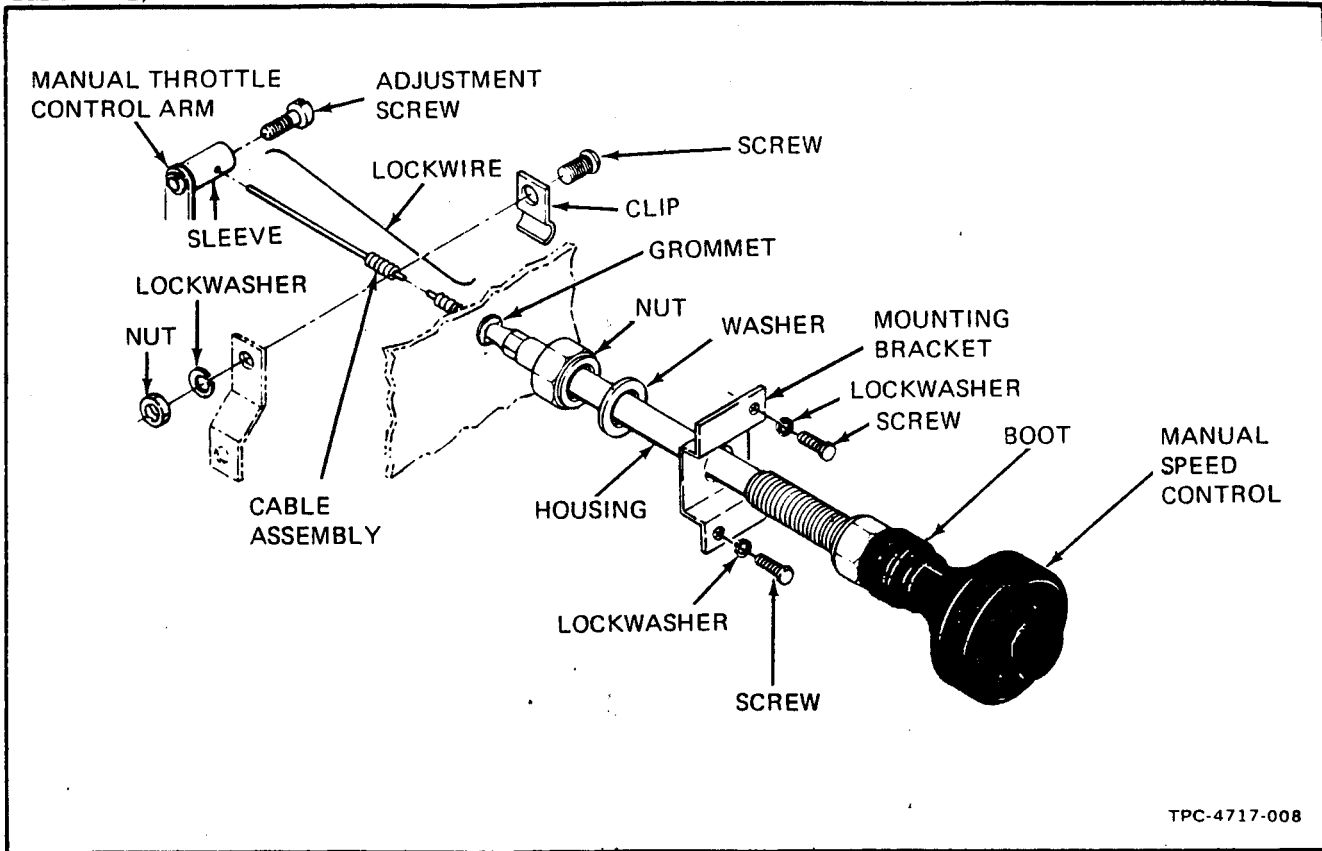

Figure 3-40. Manual Speed Control, Exploded View
(1) Inspect manual speed control knob (figure 3-40) for cracks, breaks, and other damage and condition of boot.
(2) Inspect control cable assembly for corrosion, pinched, frayed, or otherwise damaged cable, pinched or damaged housing, insecure mounting, and stripped or otherwise damaged adjusting threads.
(b) Insert manual speed control cable through sleeve of fuel injection pump manual throttle control arm (figure 3-40).
(a) Loosen adjustment screw (figure 3-40) and